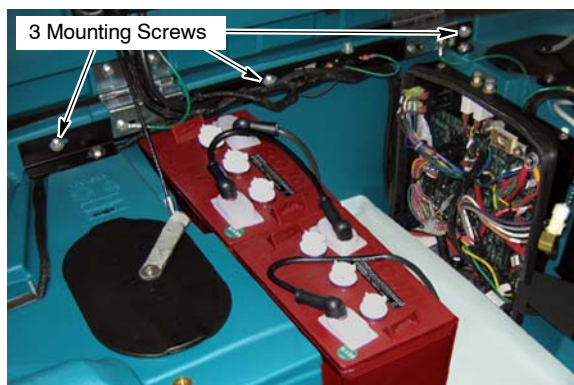

Fig. 5
9. Remove the machine's left side panel. Three mounting screws secure the panel into place (Figure 5).